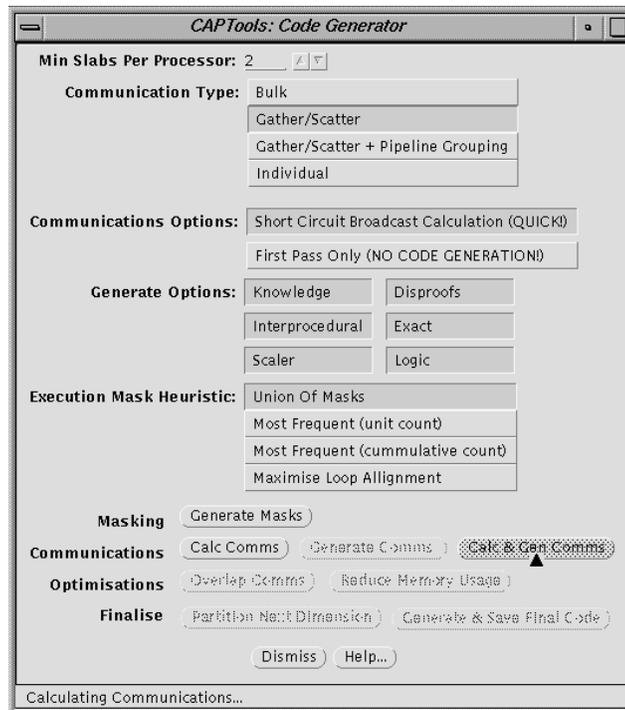

Figure T5-5: The Code Generator window for the final generation of message-passing code.
7. **Generate masks and communications.** Start the **Code Generator** from the CAPTools main window. Choose 2 for **Min Slabs Per Processor**, which indicates at least 2 slabs in the partitioned direction to be used for the execution and reduces number of communications calls placed. Select **Gather/Scatter** for **Communication Type**. Click **Generate Masks** to start the mask generation and **Calc & Gen Comms** to generate communications. See Figure T5-5.